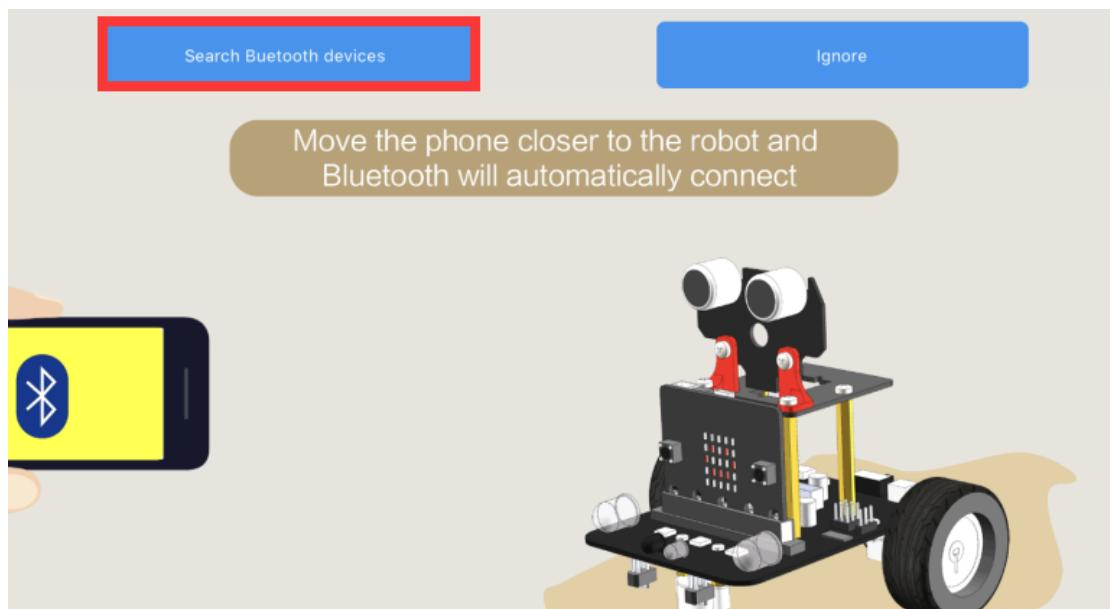

Figure 1.2
6.2 Open the Bluetooth of your mobile phone, and open the Bluetooth APP, Mobile phone close to robot Bluetooth automatic connection. If Bluetooth can't connect automatically, you need to click **【Search Bluetooth devices】** to connect the Bluetooth between the phone and the robot. As shown in Figure 1.2